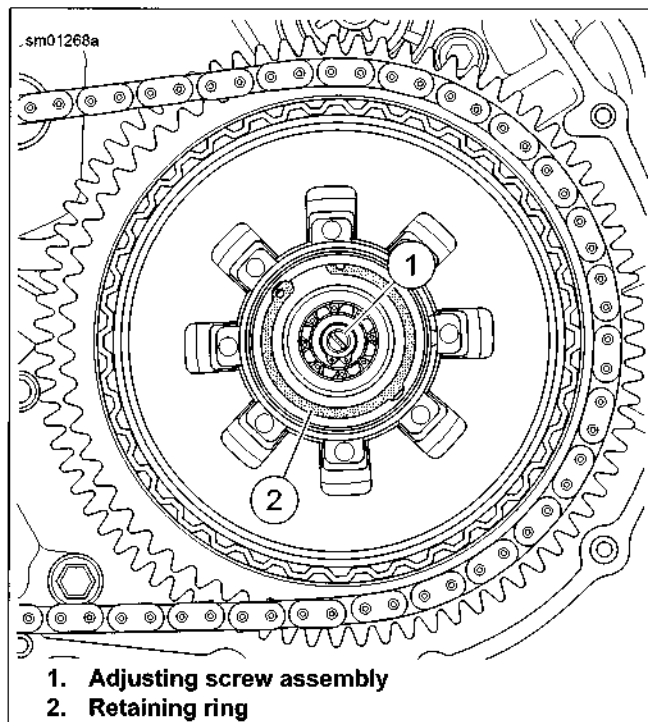

Figure 5-17. Clutch Adjusting Screw Assembly and Retaining Ring
9. See Figure 5-17. Install adjusting screw assembly (1) in pressure plate, noting that two tabs on perimeter of release plate must be inserted into corresponding recesses in pressure plate. Secure assembly with a new retaining ring (2).